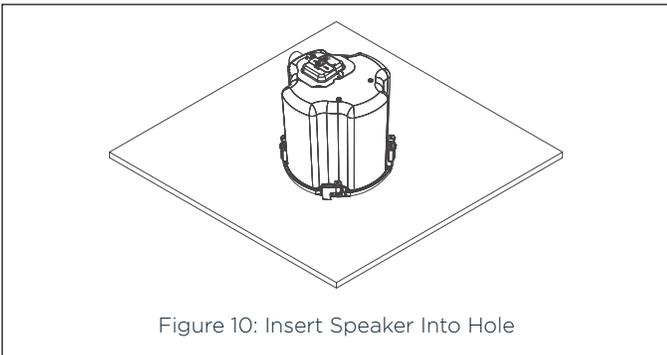

Figure 10: Insert Speaker Into Hole
- Make sure the Roto-Lock Clamps are in the full clockwise position so that all the clamps are tucked within the cutout border. Insert the speaker into the hole in the ceiling (see Figure 10).